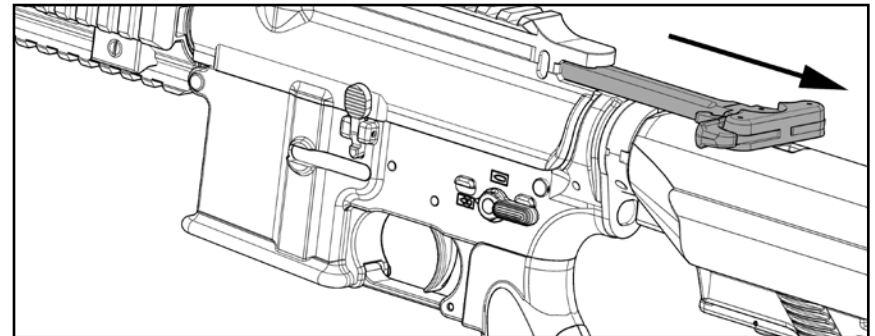

Fig. 16
2. Pull the charging handle rearward to open the bolt and lock it to the rear (Fig. 16).